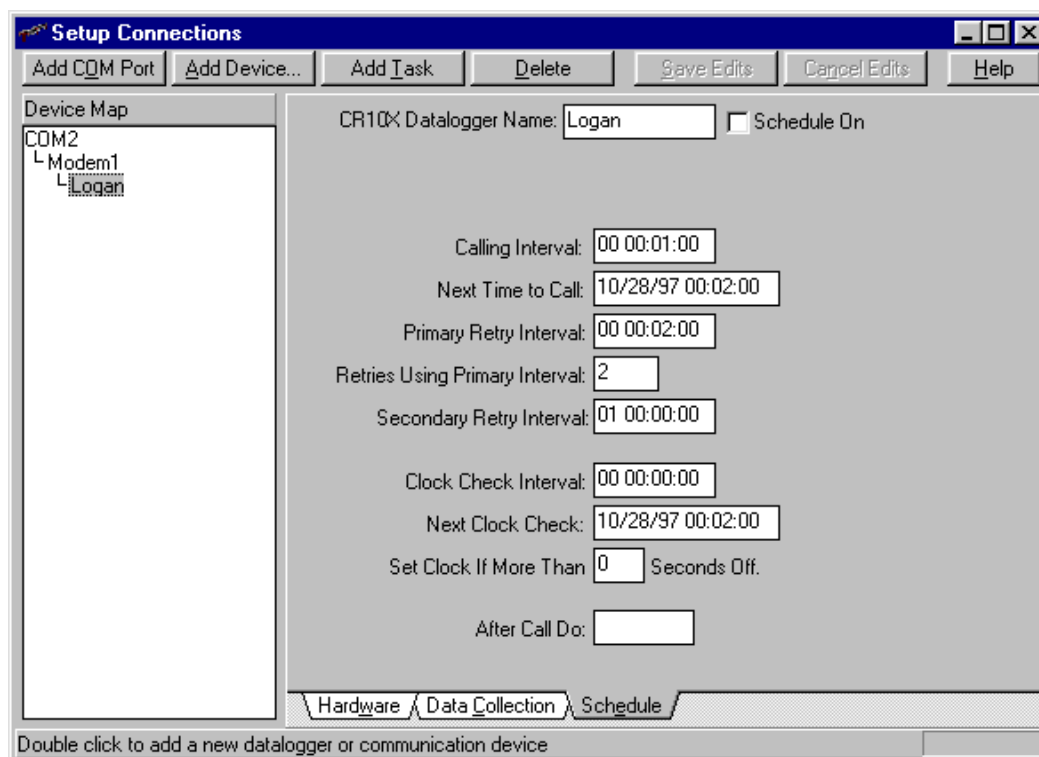

FIGURE G.3-5. Example Schedule Settings
- On the Datalogger's Schedule screen, the "After Call Do" must be verified. This is the place to put the name of a Task to run after the call. The Task is an optional fourth Device that would run a batch file (.BAT) or program after the data has been collected and before the computer returns to the wait mode to wait for incoming calls. (This example does not run a Task after collecting the data so this field is blank, Figure G.3-5).